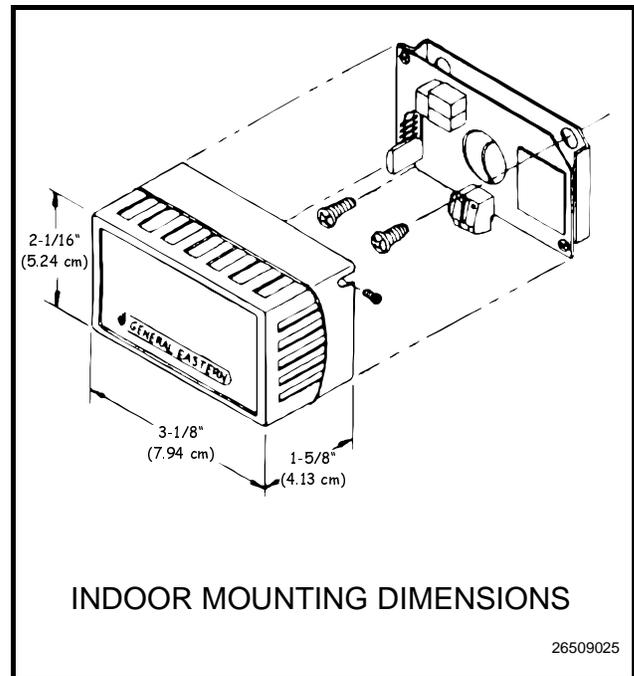

Figure 19 - Indoor RH Mounting Dimensions
2. Mount the sensor to the wall using the two mounting holes near the flattened corners of the mounting plate (as shown in **Figure 19**).